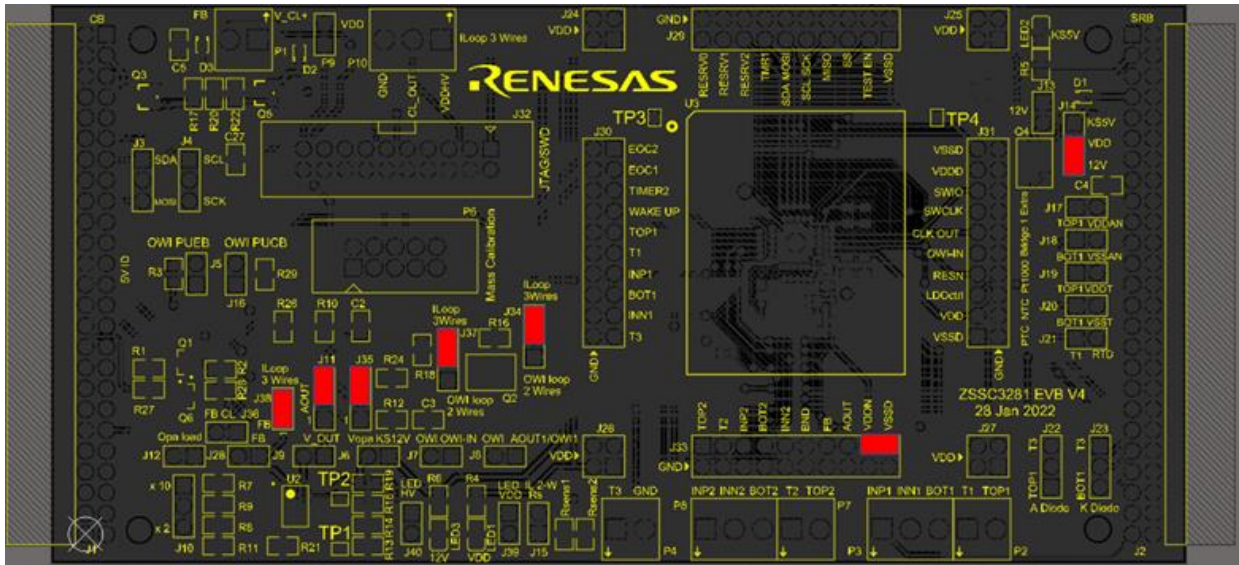

Figure 135. 3-Wire-Current-Loop Jumper Setting
- Ensure that VDDN is shorted to GND (J33) as displayed in Figure 135.